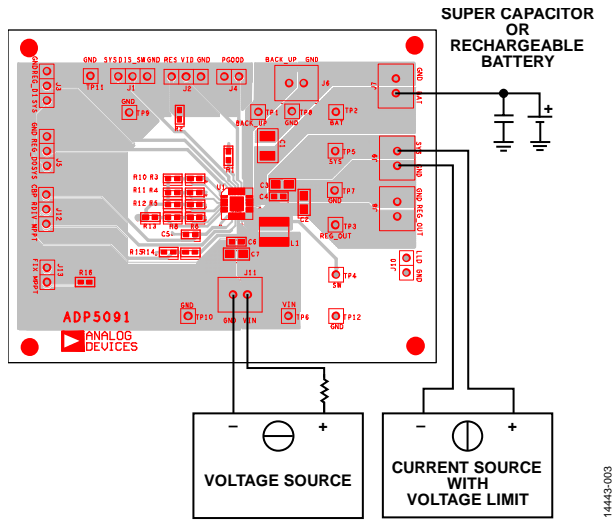

Figure 3. Setup for the ADP5091-1-EVALZ and ADP5092-1-EVALZ
Energy harvesting power sources are high impedance sources. Figure 3 shows that a source meter configured as a current source with a voltage limit set to the open circuit voltage of the harvester is the best way to simulate the harvester. For low output impedance power supply (voltage source), it is necessary to simulate the impedance of the harvester with a physical external resistor (R) between the supply and the VIN pin. If the input current source includes a voltage meter, use the meter to monitor the input voltage as follows: